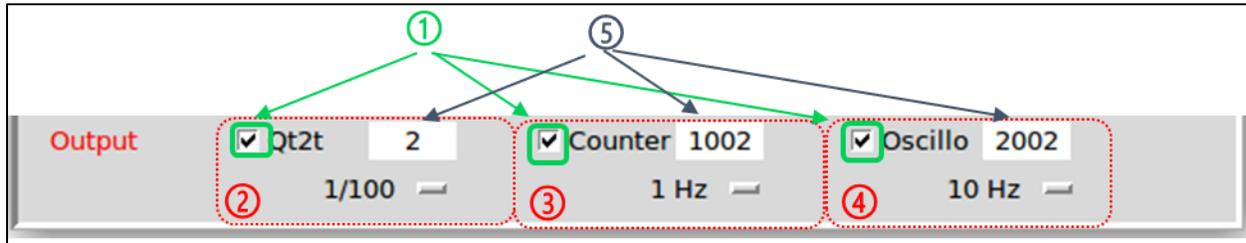

Figure 25: parameters of the Data output module
The Data output module (Figure 25) defines the output data sent to the computer by checking buttons ①. These data are:
- the data processed by the QT2T module ②,
- the counting data ③,
- the data from the Oscilloscope module ④.